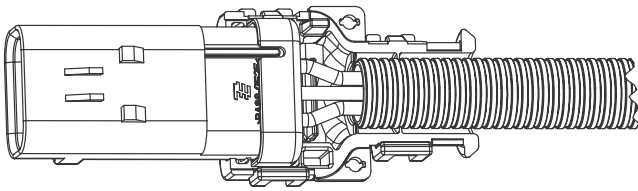

Figure 3
5. Insert the connector into the bottom half of the backshell so that the wire seal cover is behind the second rib at the opening of the backshell. The conduit should be placed into the rear portion of the backshell with the end at or near the conduit flange and the conduit retention rib recessed within one of the wells of the conduit. See Figure 3.